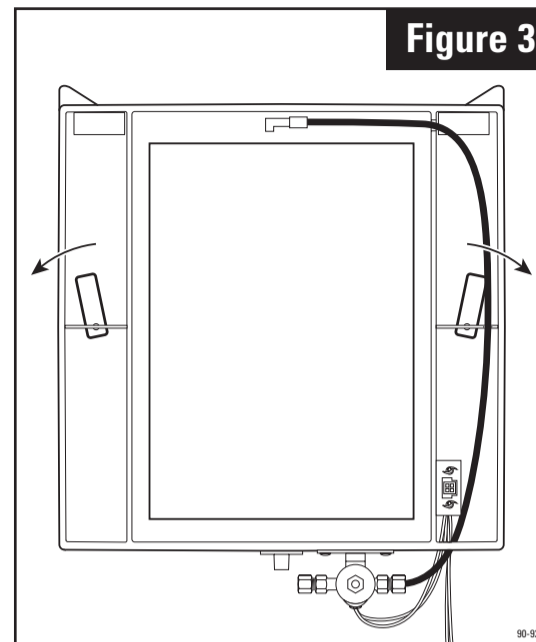

Figure 3
4. Rotate swing locks to secure base to duct. See **Figure 3**. Fasten base to duct using 4 sheet metal screws in holes provided.
5. Insert Water Panel Evaporator assembly into base. Make sure bottom of scale control insert (5) is over drain opening. Snap top of evaporator assembly into base.